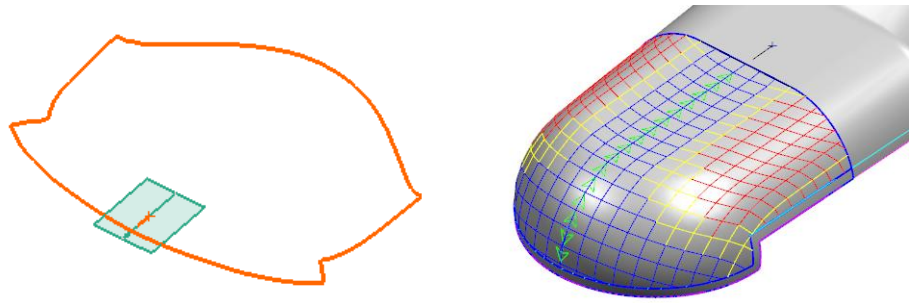

Figure 4–2
7. The **P001** producibility results and flat pattern geometry display as shown in Figure 4–2.